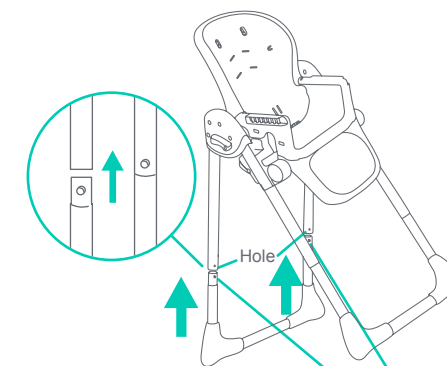

Fig. 8
- 8) • Insert another Leg into the ends of the rear tube of both the right and left Upper Frame Assemblies (Fig. 8).